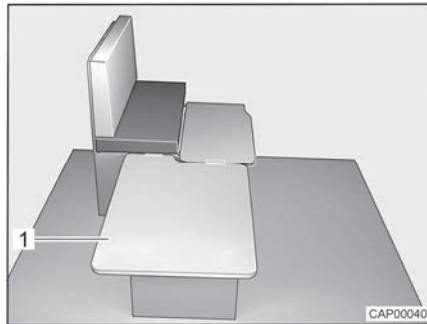

Fig. 41 During conversion
- Hook removable board (Fig. 41,1) in on the side of the bench and place it on the table.